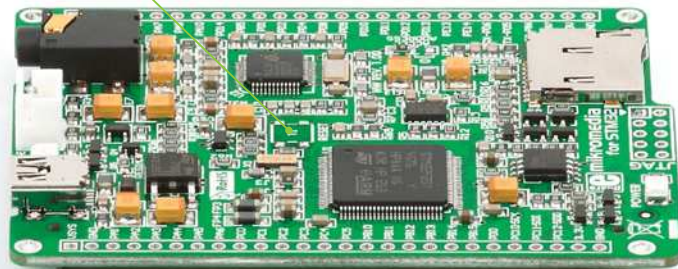

Figure 4-1: Location of additional reset button
**NOTE** | You can also solder additional reset button on the appropriate place at the back side of the board, **Figure 4-1**.